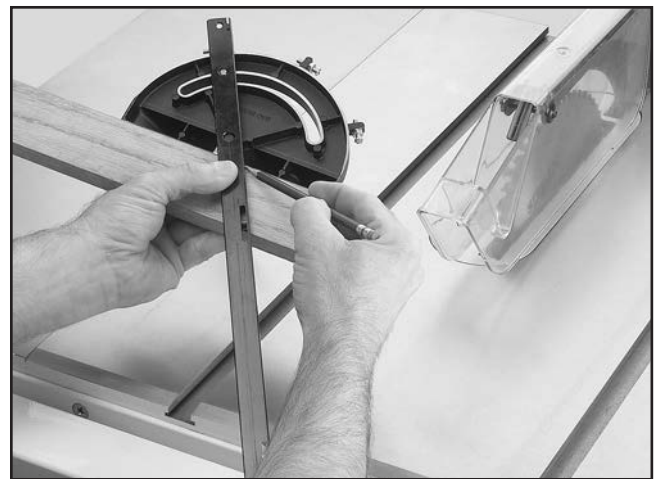

Figure 58. Example of marking miter line.
4. Place face of miter gauge against edge of workpiece and place bar across face of workpiece. Use bar as a guide to mark your cut, as shown in **Figure 58**.